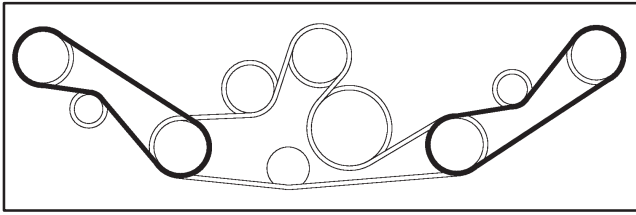

Figure 24
5. Route new belts around spindle pulleys and thru idler pulley assemblies as shown in figure 24.